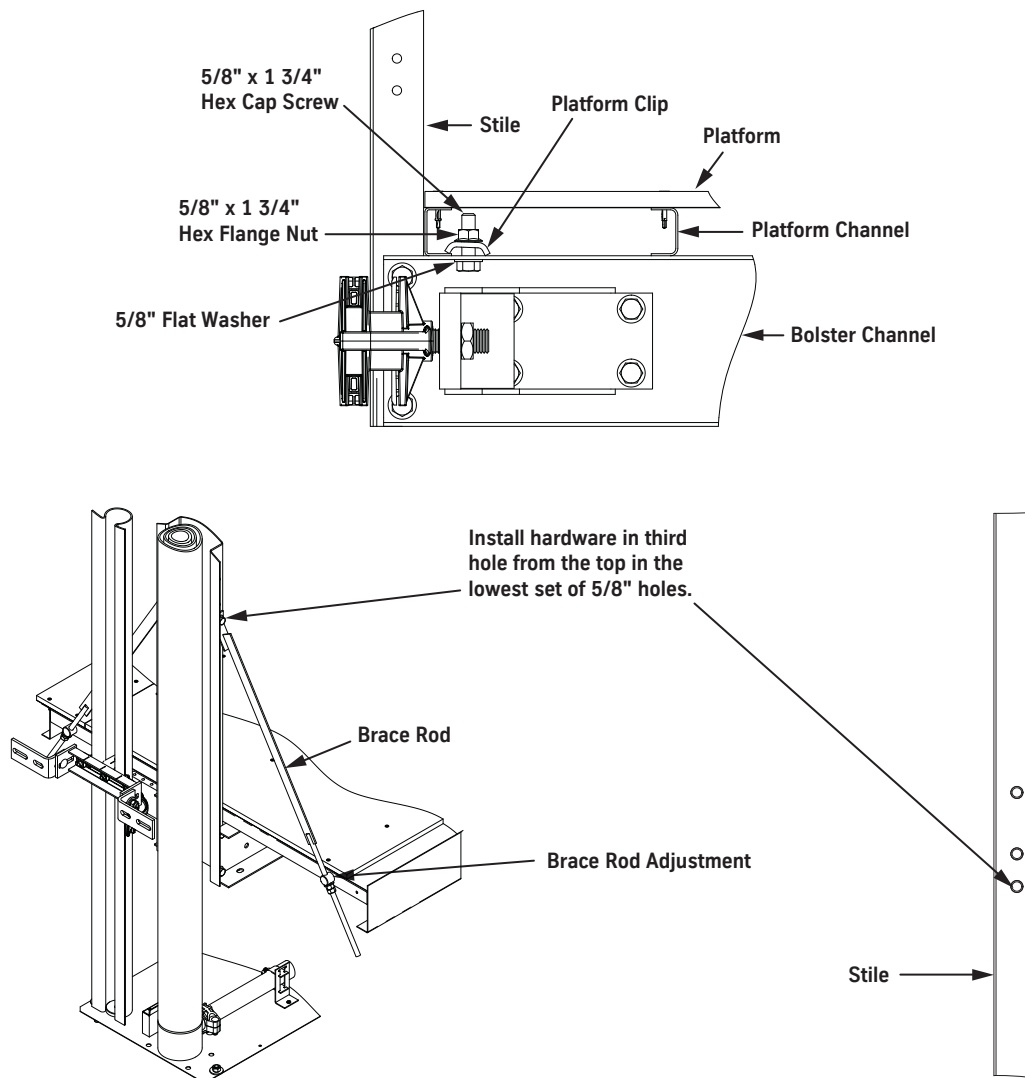

Figure 43 - Platform Installation
1. Hoist the platform into place, and install the clips and bolts between the platform channels and the tops of the bolster channels. See Figure 43.